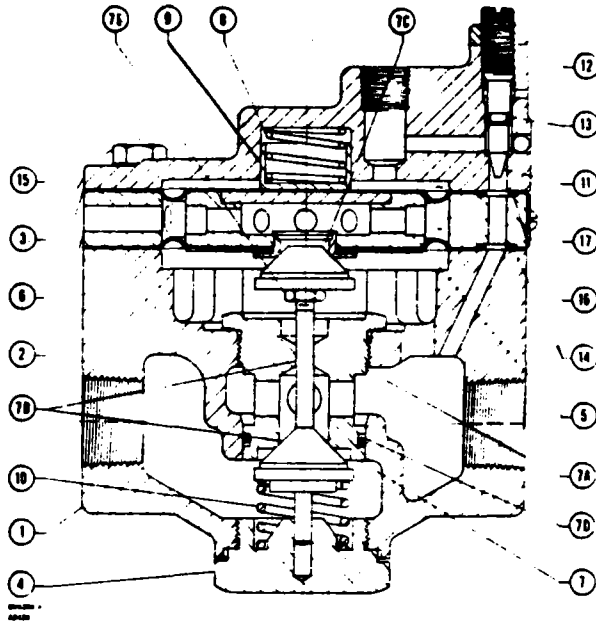

Figure 4. Type 2625 Volume Booster Assembly Drawing
Key numbers refer to figure 4.
Whenever corresponding with the sales representative about this equipment, mention the serial number of the unit. This serial number can be found on the nameplate (key 16, figure 4). When ordering replacement parts, also state the complete eleven-character part number of each part required as found in the following parts list.